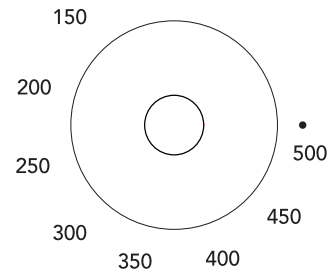

Figure 10: Oven temp knob
4. Turn the oven temp knob to the desired temperature position (Figure 10).
2. Turn the oven temp knob to the desired temperature position (Figure 10). For optimum results, preheat broil for 15 minutes before adding food.